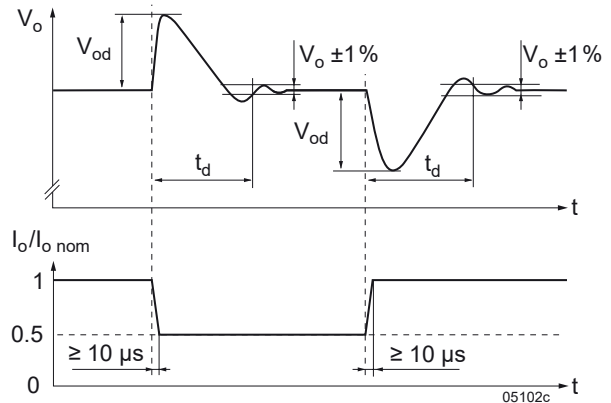

Fig. 13
- ² See *Dynamic load regulation (fig. 13)*
⁴ See *Dynamic load regulation (fig. 13)*